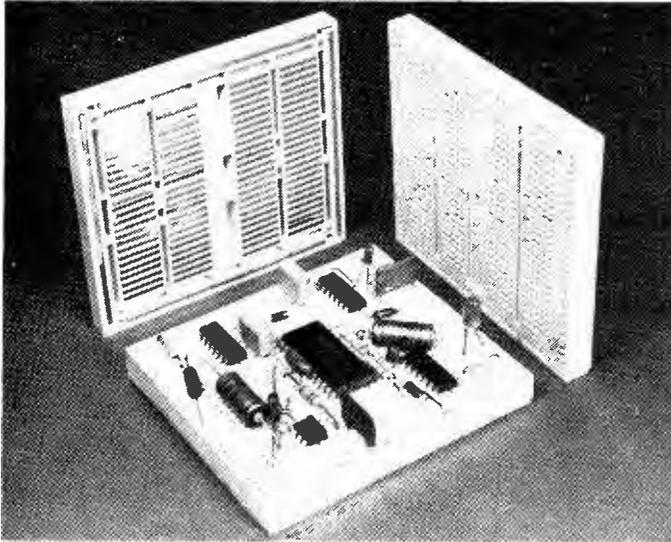

Fig. 2
**Euro Bread Board**, see Fig. 2, measures 92 x 82mm and follows the socket connection system of Fig 1(a). A single panel will accept 0.3 and 0.6in i.cs as well as most discrete components with leads of up to 0,85mm dia. A total of 500